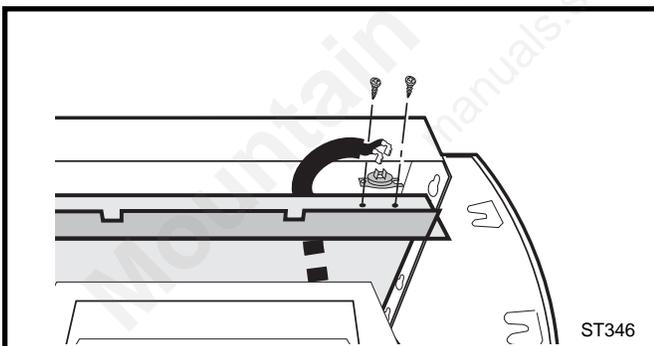

Fig. 12 Attach snapstat to inner shroud.
2. Feed the snapstat wire lead up between the inner and outer rear shroud panels and secure the snapstat to the upper right side of the inner shroud. (Fig. 12)